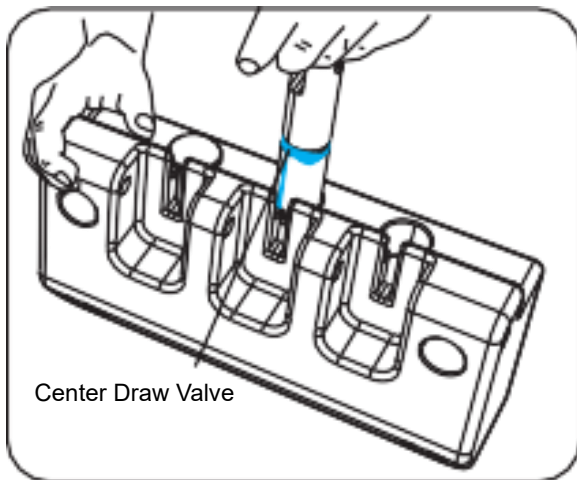

Figure 25
- ✖ When reassembling, the Center draw valve should be placed as shown in Figure 25.